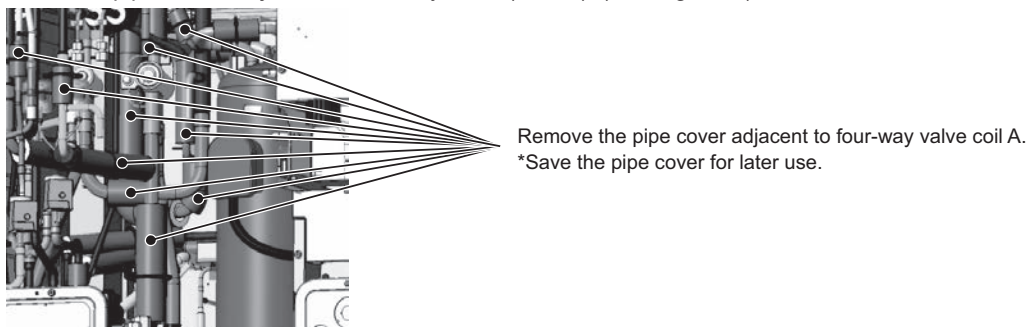

Figure 8
- (8A) Remove the pipe covers adjacent to four-way valve (21S4a). (See Figure 8.)